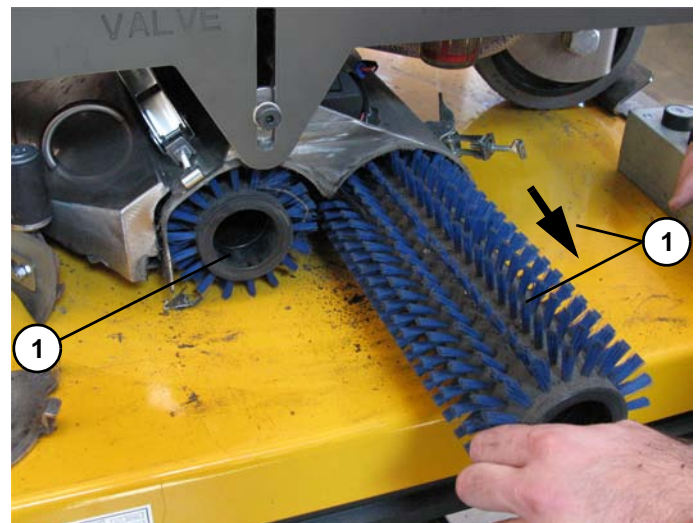

Figure 5-19
5. Extract the cylindrical brushes (3, **Figure 5-19**).